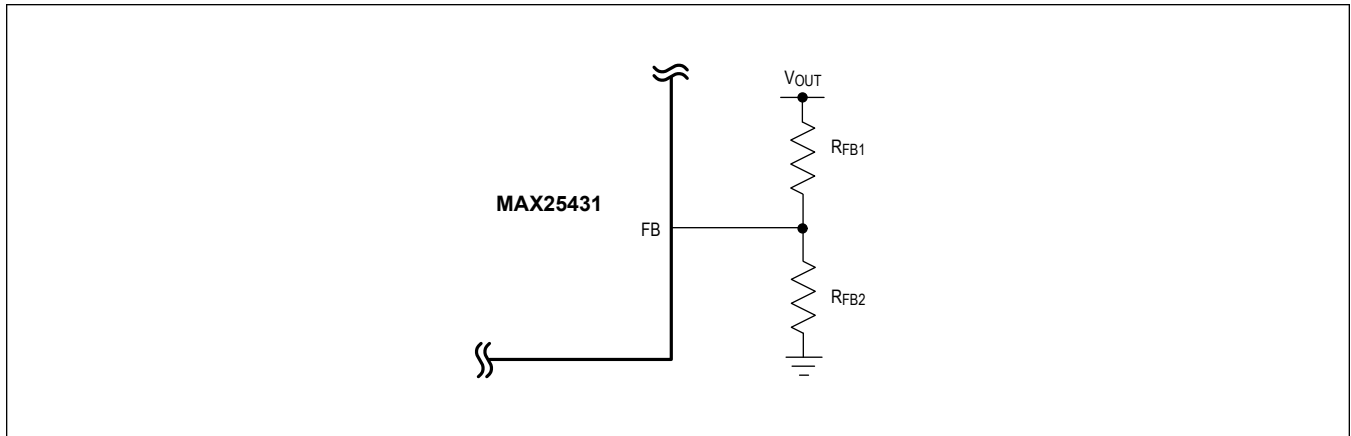

Figure 1. Setting the Output Voltage for the MAX25431
Connect FB to V_{CC} to enable the fixed output voltage (5V) set by a preset internal resistive voltage-divider connected between the feedback (FB) pin and AGND. To externally adjust the output voltage between 4V and 25V, connect a resistive divider from the output (OUT) to FB to AGND (Figure 1). Calculate RFB1 and RFB2 with the following equation: